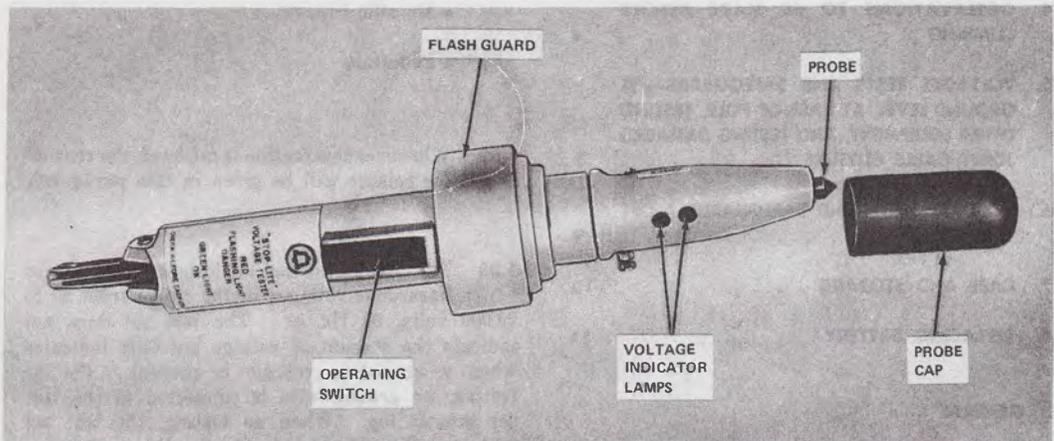
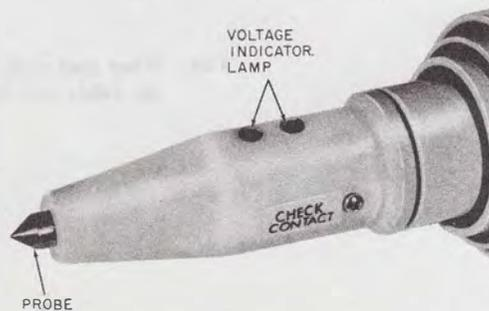

Fig. 1—188A Test Set
Fig. 2—Voltage Indicators
- 3.01** The 188A test set (Fig. 1) is a yellow plastic two-piece unit that weighs approximately 1 pound. The front housing contains the carbide probe tip and the light emitting diode (LED) voltage indicators (one green and one red), Fig. 2.